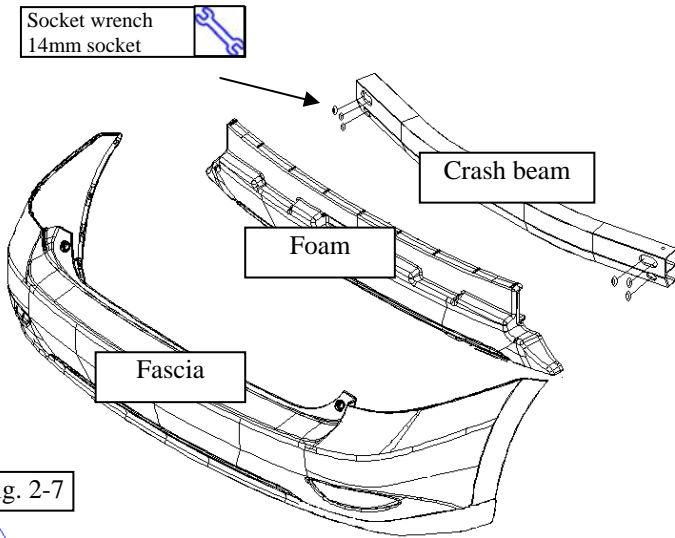

Fig. 2-7
- (j) Remove foam support piece and save. (Fig. 2-7)
- (l) Using a socket wrench and 14mm socket, remove nuts (6 places) and discard crash beam and nuts. (Fig. 2-7)